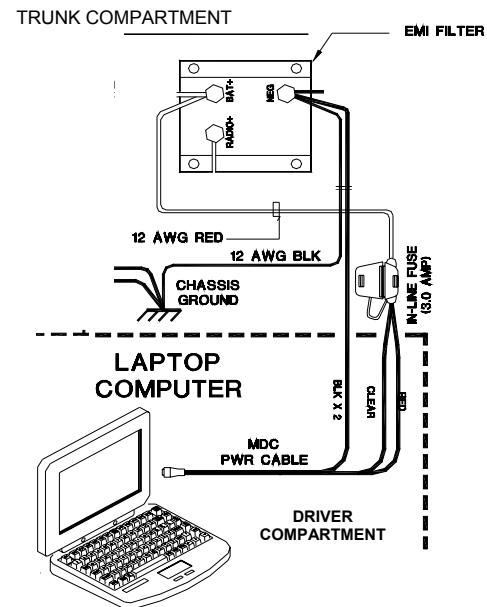

Figure 8
Step 2 Route and wire the red and clear MDC power wires via a 3 AMP in-line fuse, routing the red wire (#12 AWG) to the battery (+) terminal connection on the EMI Filter (see Fig. 8).
Step 3 Route and wire the black MDC power wire to the negative (-) terminal on the EMI Filter (see Fig. 8).